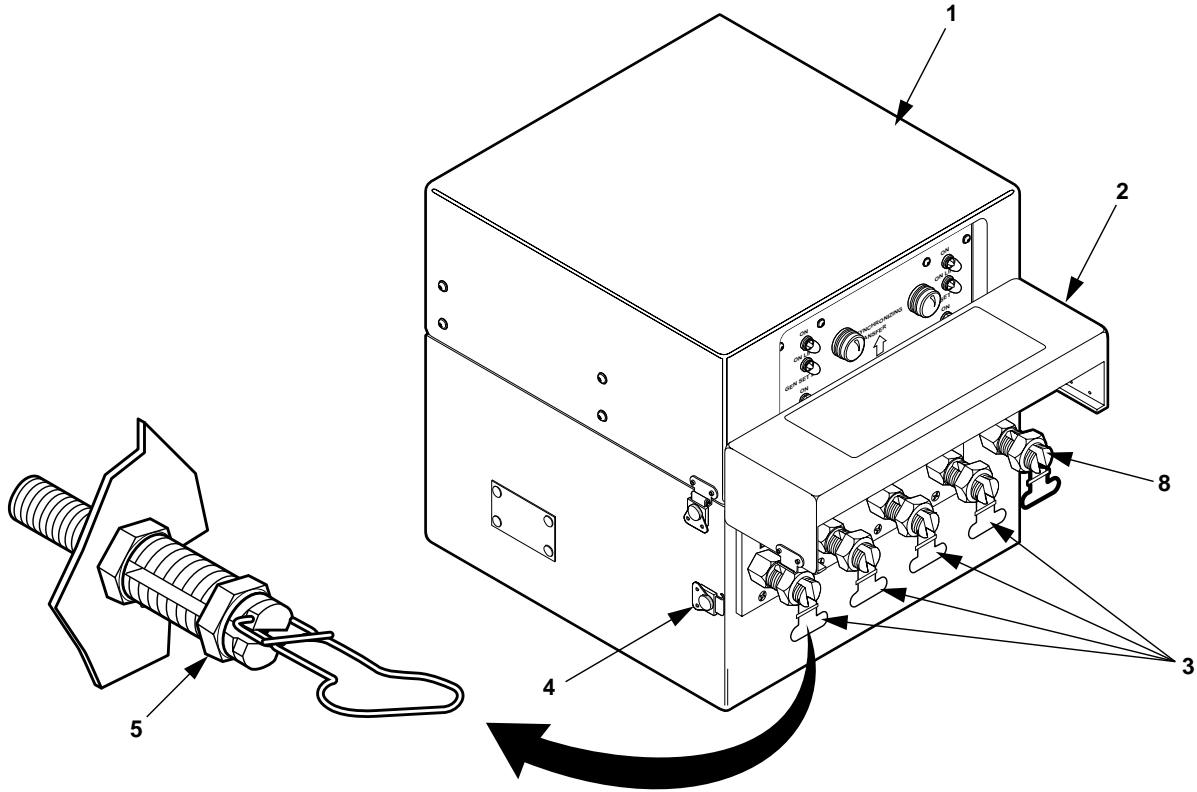
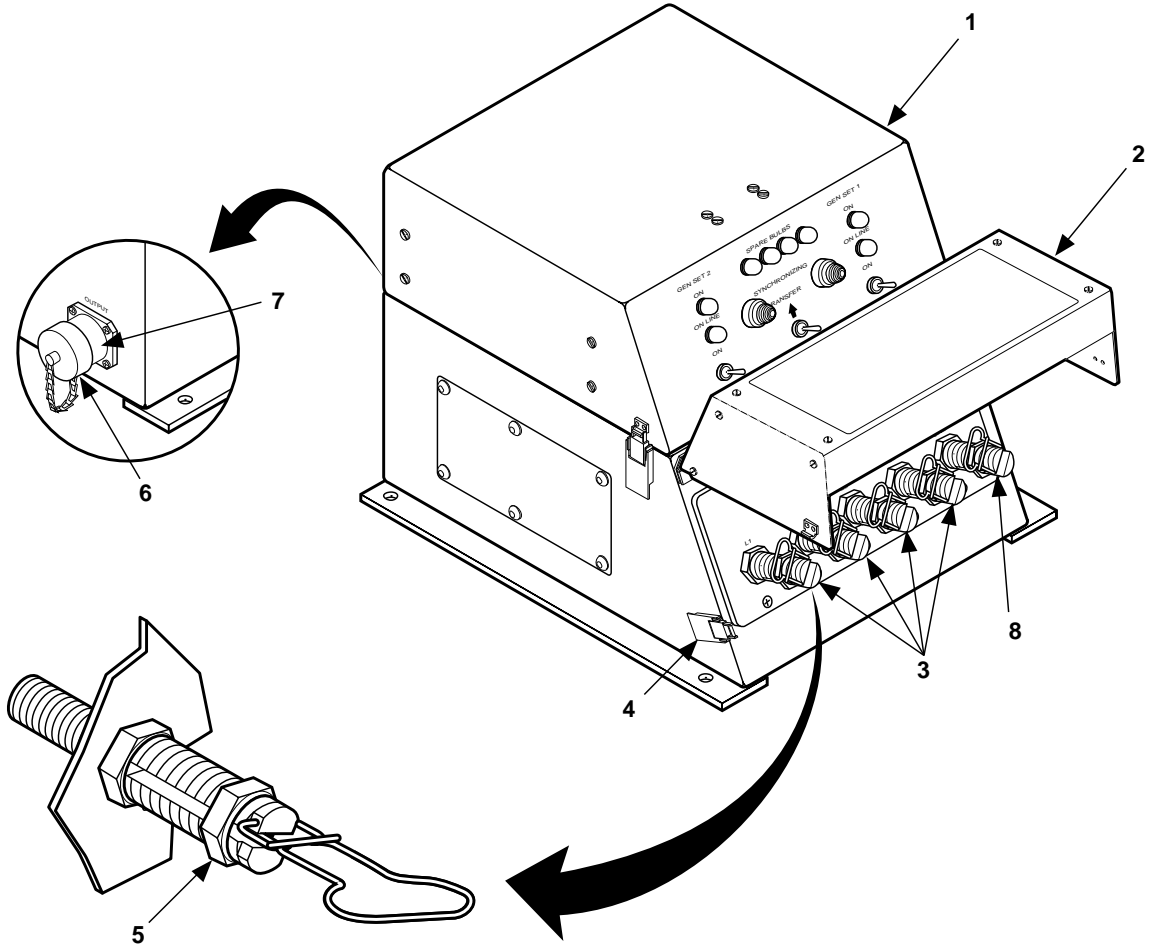

Figure 2-11. Switch Box Load Cable Connections (NEW).
Figure 2-11.1. Switch Box Load Cable Connections (OLD).
2-3.4.1 Power Plant. Load cables and instructions for connecting them are normally furnished with the equipment that is to be supplied with electric power. The load may be connected to the switch box (1, figure 2-11) and (1, figure 2-11.1) by either of two arrangements. One way is to connect a load cable to the switch box output connector (7, figure 2-11.1). The other way is to connect load cables to the switch box load terminals (3, figure 2-11). Before connecting the load, determine voltage requirements of the system or equipment that is to receive electric power.
- a. Remove cap (6, figure 2-11.1) from output connector (7).
- b. Connect load cable to output connector (7).
- a. Release both clamping catches (4, figure 2-11.) and raise load terminal cover (2).